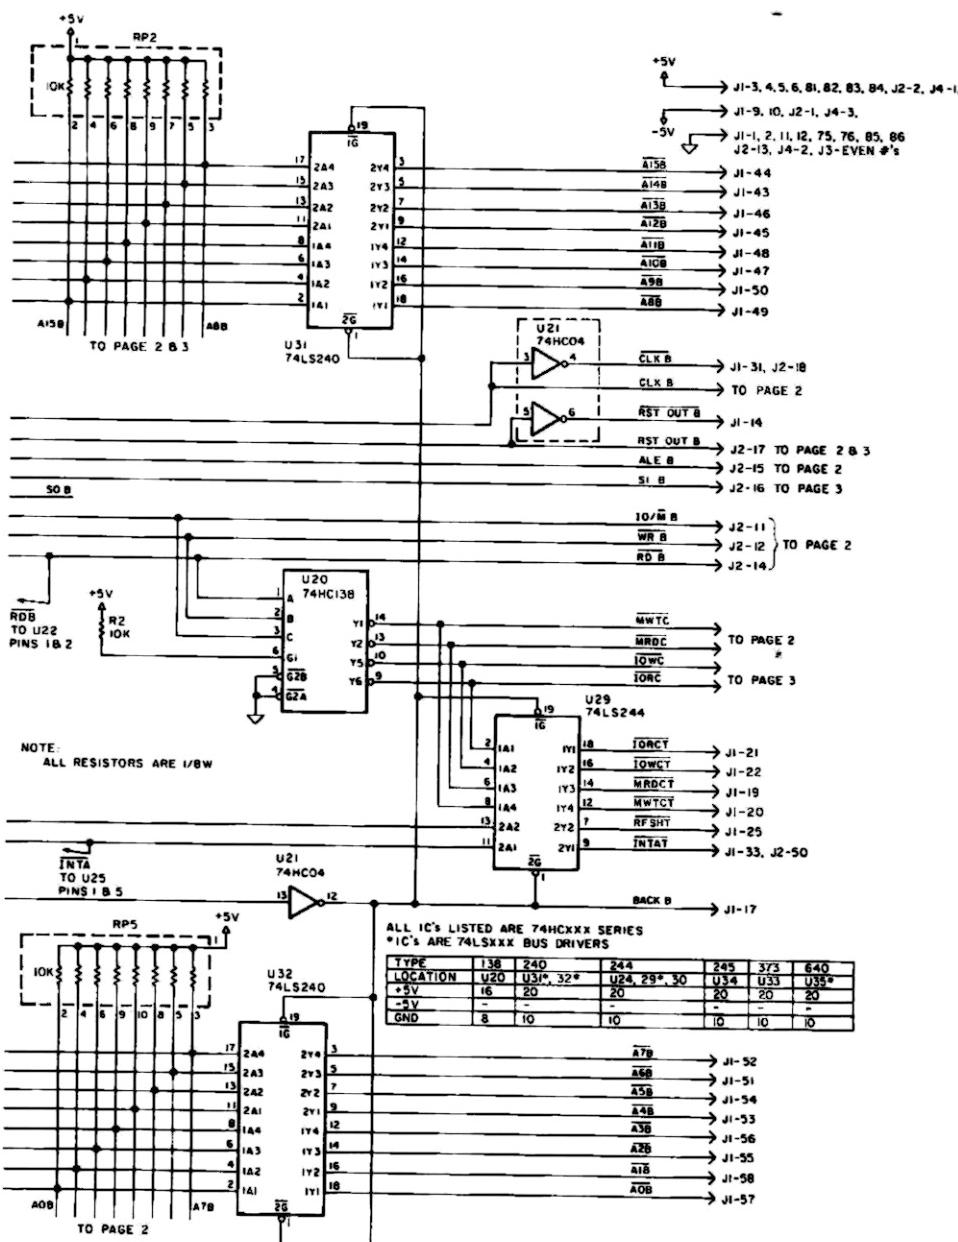

Figure 4a. DR800 single-board microprocessor.
I've developed a printed circuit (PC) board for this project, and it's available as indicated in the parts list I included in April's column (p. 85). The schematics for the DR800 board are shown in Figs. 4a, 4b, and 4c (Figs. 1-3 appeared last month). Most of the parts are readily available. You can substitute special parts (like the specific type of reset switch) as required.